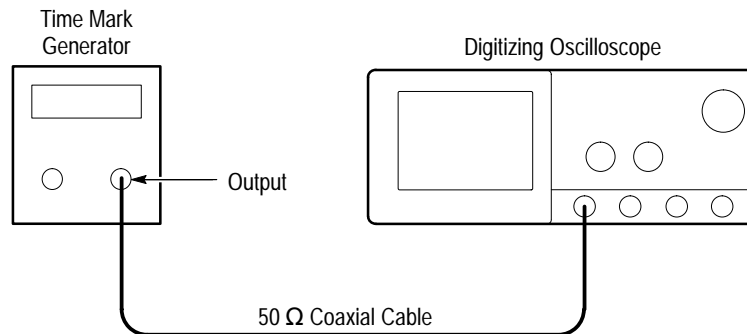

Figure 1–11: Initial Test Hookup
- a. *Hook up the test-signal source:* Connect, through a 50  $\Omega$  precision coaxial cable, the time-mark output of a time-mark generator to **CH 1**. Set the output of the generator for 10 ms markers. See Figure 1–11.